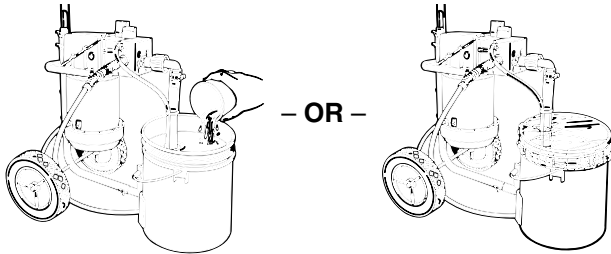

Figure 33 – Add 1/2 Cup Water to Latex Paint Seal Container for Other Materials.
2. **For latex materials only**, pour 1/2 cup water slowly on the top of the paint to prevent the paint from drying. For other materials, seal the paint container with a piece of plastic while the suction tube is still in the paint. See Figure 33.